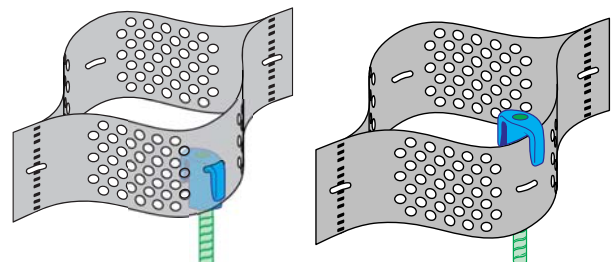

Figure 3 ATRA® Stake Edge Restraint
- Partially expand the Geoweb® section and place the end cell of the section over its corresponding edge stake. When ATRA® Anchors are used, ensure the ATRA® Clip arm is hooked through the slot hole, or the anchor is placed over the cell wall. See Figure 3.